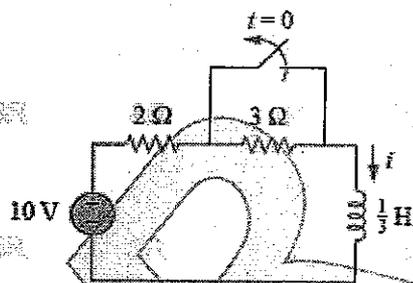

Figure: 1
- b) Find $i(t)$ in the circuit in figure 1 for $t > 0$. Assume that the switch has been closed for a long time.